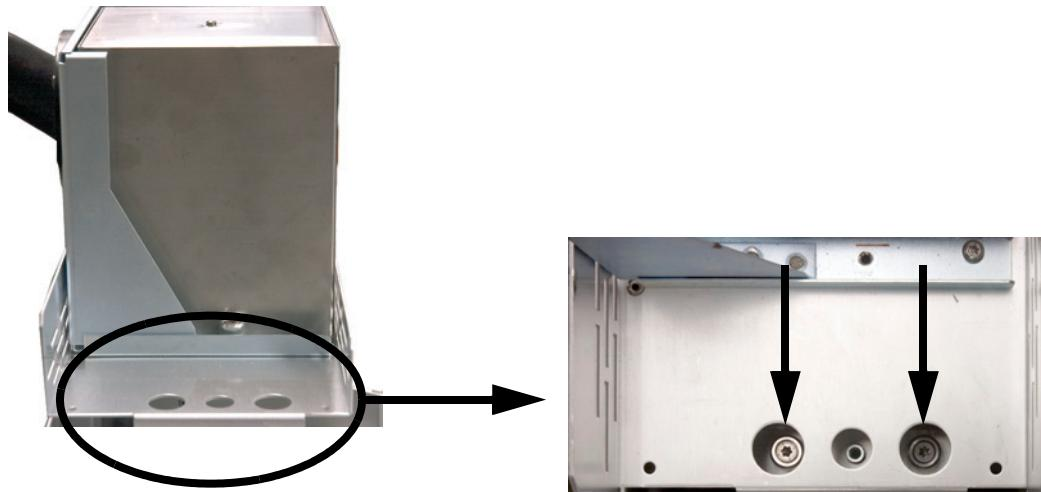

Figure 7 Front T-20 Torx thumbscrews
- a Completely loosen the two T-20 Torx captive thumbscrews that are inset at the front of the pneumatics assembly (Figure 7).
- b Tighten the two T-20 Torx captive thumbscrews in the front of the pneumatics assembly (see Figure 7 on page 9).